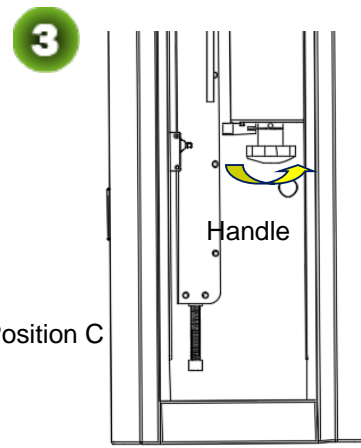

Figure 3-3
- 3) Use the motor handle to lift the boom in the case of a power failure, See Figure 3-3.